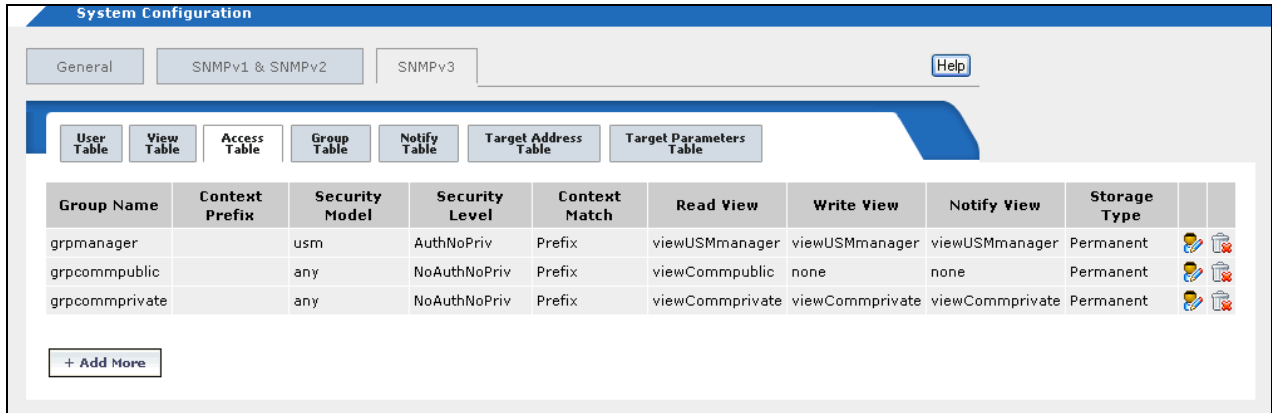

Figure 116. SNMPv3 Access Table Tab
- :Click the **Configuration** button in the menu bar and then select the **SNMPv3** tab and the **Access Table** tab. The SNMPv3 Access Table tab is shown in Figure 116.